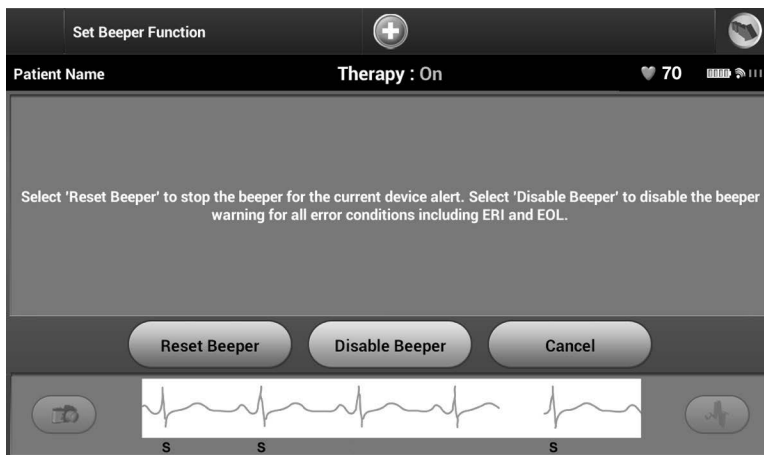

Figure 48: *Resetting the Beeper*
2. Select the Reset Beeper button to suspend audible beeping tones triggered by an alert condition (Figure 48). If the alert condition is not corrected, the audible beeping tones will be reactivated during the next automatic S-ICD System self-check.